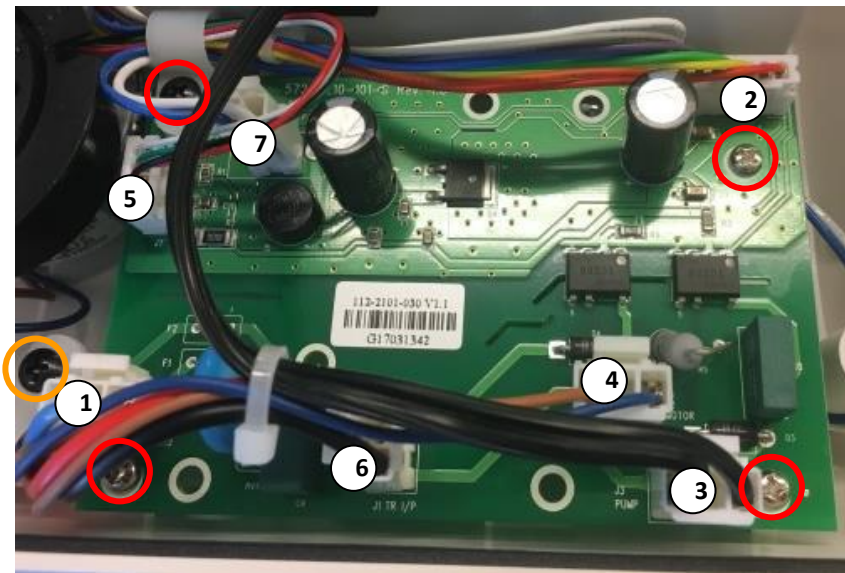

Fig: 11
2. Remove the one black screw from the cable tidy on the power PCB and then remove the one black screw from the other cable tidy, on the post near the power PCBA. (Fig: 11)
4. Disconnect rotor valve sensor and rotor valve motor from power PCBA. (Fig: 11)
2. Remove the four power PCBA retaining screws, three silver screws and one black screw with cable tidy. (Fig: 11)
4. Reverse procedure to install new unit, referring to Fig: 11 for the positions of the connectors, ensuring that the wire routing is exactly as found.
2. Disconnect 2-pin compressor connector from Power PCBA. (Fig: 11)
3. Remove the one black screw from the cable tidy, holding the rotor valve motor wires and the transformer mains supply wires. (Fig: 11)